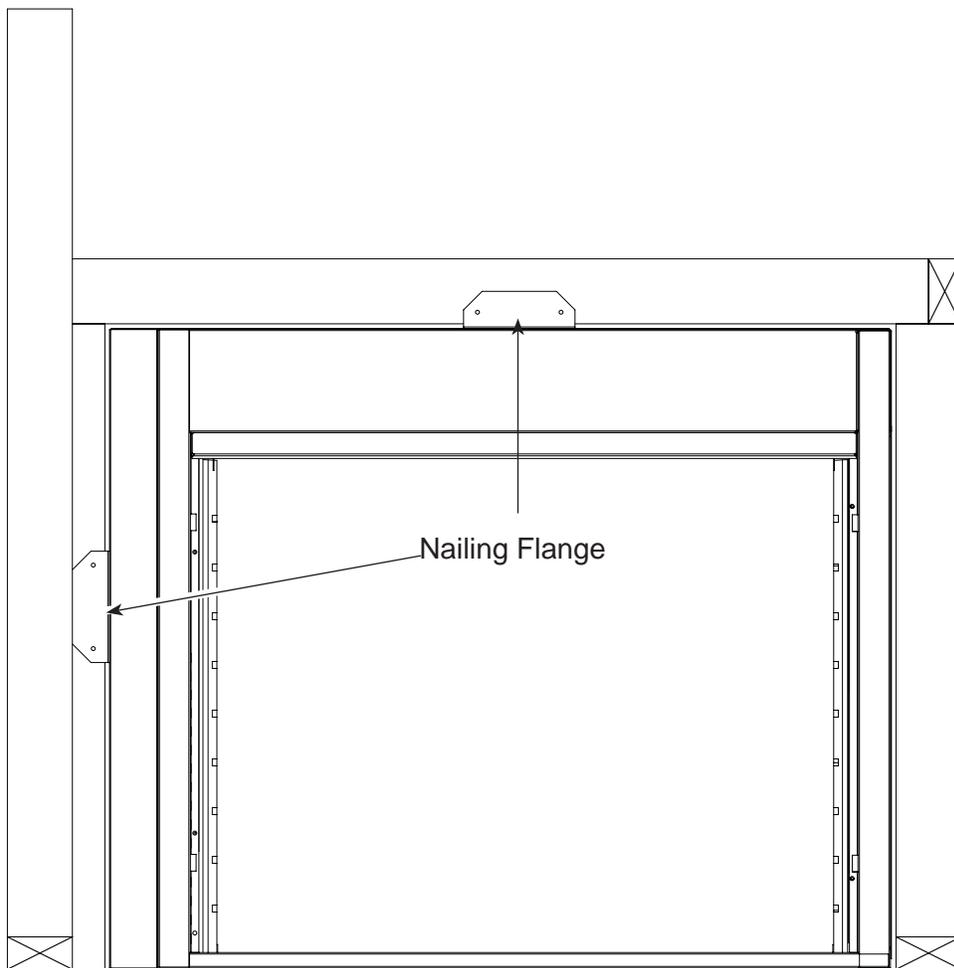

Figure 17 - Location of Nailing Flanges and Floor Screws
5. Attach nailing flanges to studs. *See Figure 17.*